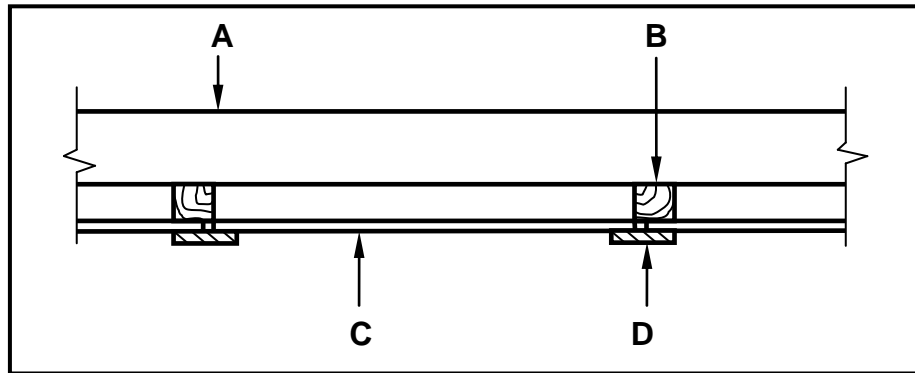

FIGURE 4.8
- 4.8 FIGURE 4.8 below shows a sectional view of a conventional trap door. Study the sketch and give ONE word/term for each letter (**A** to **D**) by choosing a word/term from the list below. Write only the word/term next to the letter (A–D) in the ANSWER BOOK, e.g. E – Rafter.